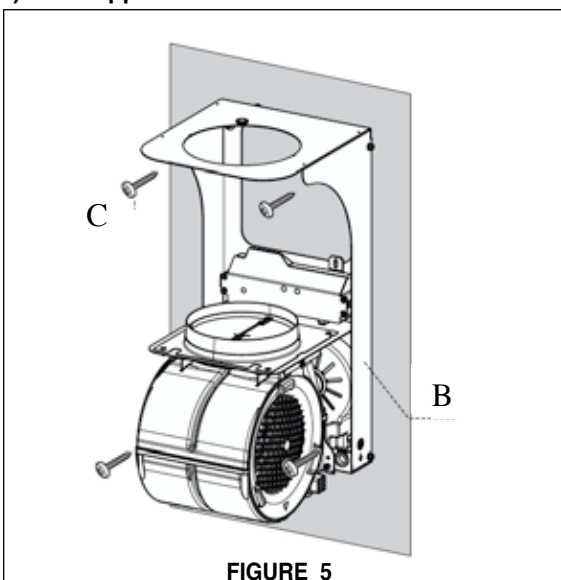

FIGURE 5
6. Attach the motor and wall support (B in FIGURE 5), using the 4 - (C) wall support screws.